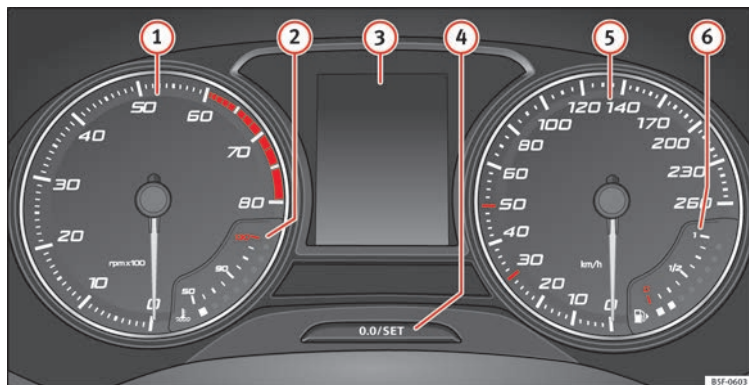

Fig. 120 Instrument panel, on dash panel
Details of the instruments » **Fig. 120:**
The rev counter indicates the number of engine revolutions per minute » Fig. 120 ❶.
» Fig. 120 to go into the red zone on the
A variety of information can be viewed on the instrument panel display » Fig. 120 ❸, depending on the vehicle equipment:
- Briefly press the button »» **Fig. 120**  to re-set the trip recorder to 0.
- To set the time, keep the button »» **Fig. 120**  pressed for more than 3 seconds to select the hour or minute display.
Hold the button **» Fig. 120 ④** down for more than 15 seconds to display the identifying letters of the vehicle engine (MKB). To do this, the ignition must be switched on and the engine switched off.